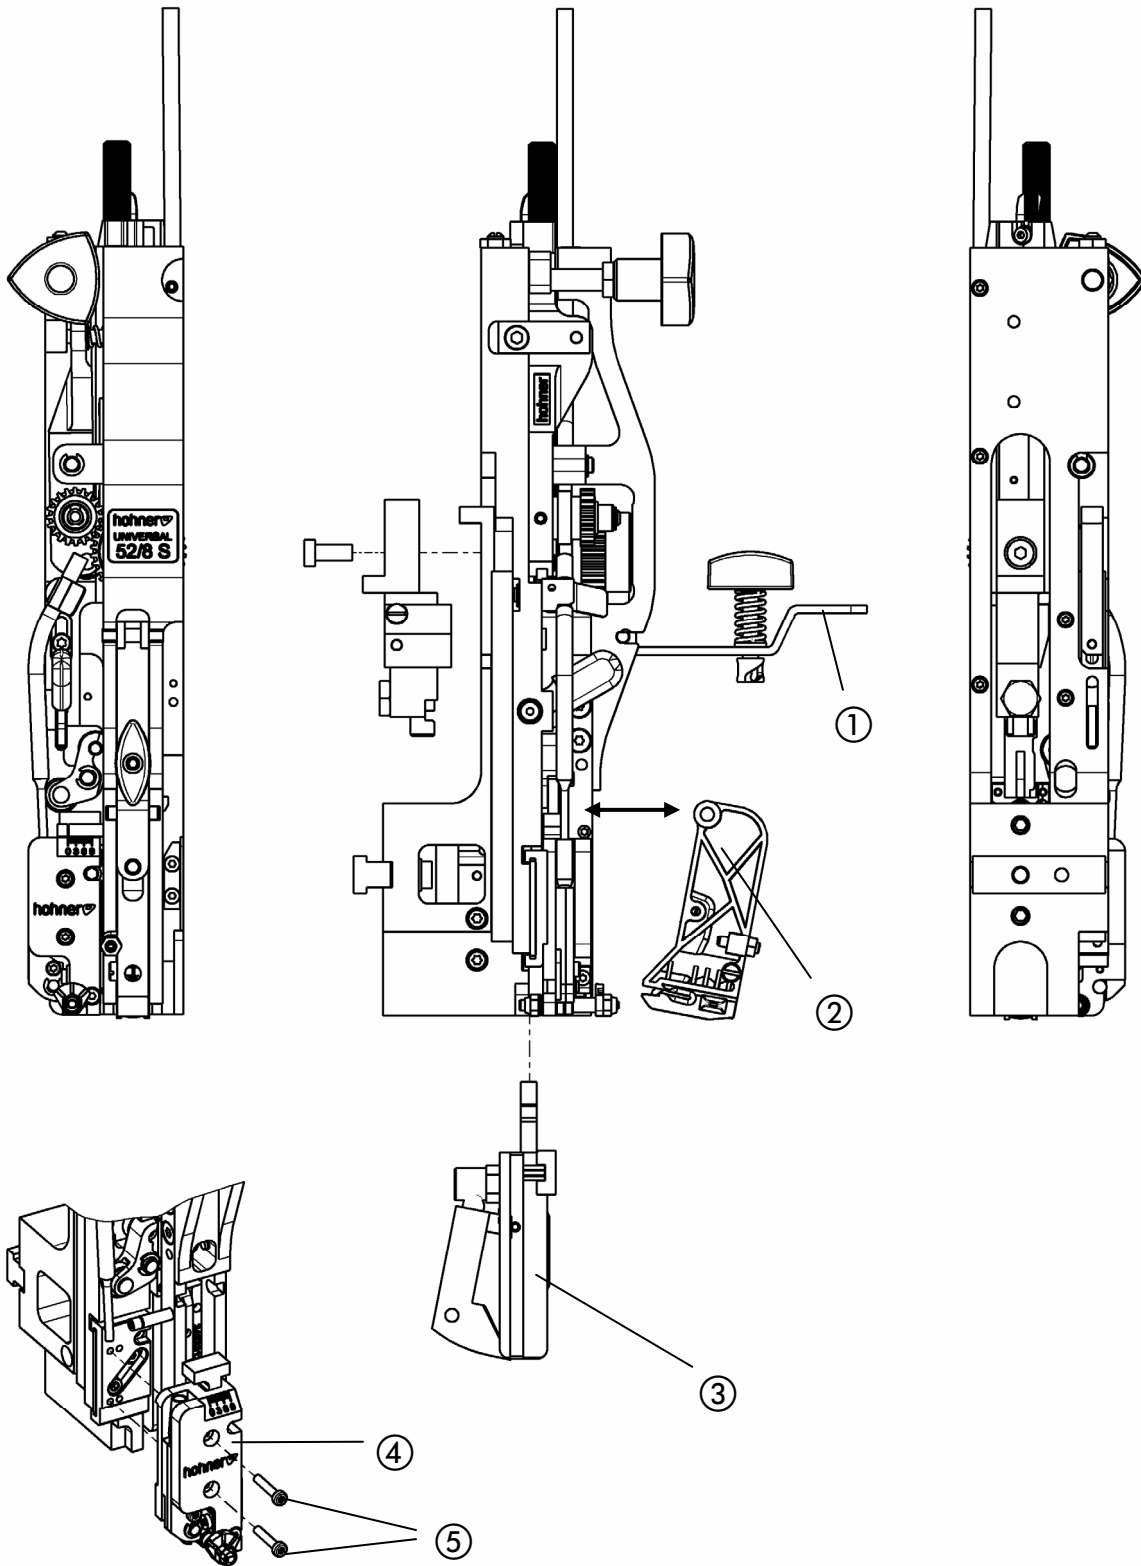

Fig. 21
- Fig. 21 -
- Replace former lever ① Art. No. 9963 590 with former lever –L- Art. No. 9963 840.
- Remove knives box ④ by undoing the screws ⑤ at the right fastening point of the guide. Move knives box by 4 mm to the left. Place knives box at the left fastening point of the guide and tighten screws ⑤.